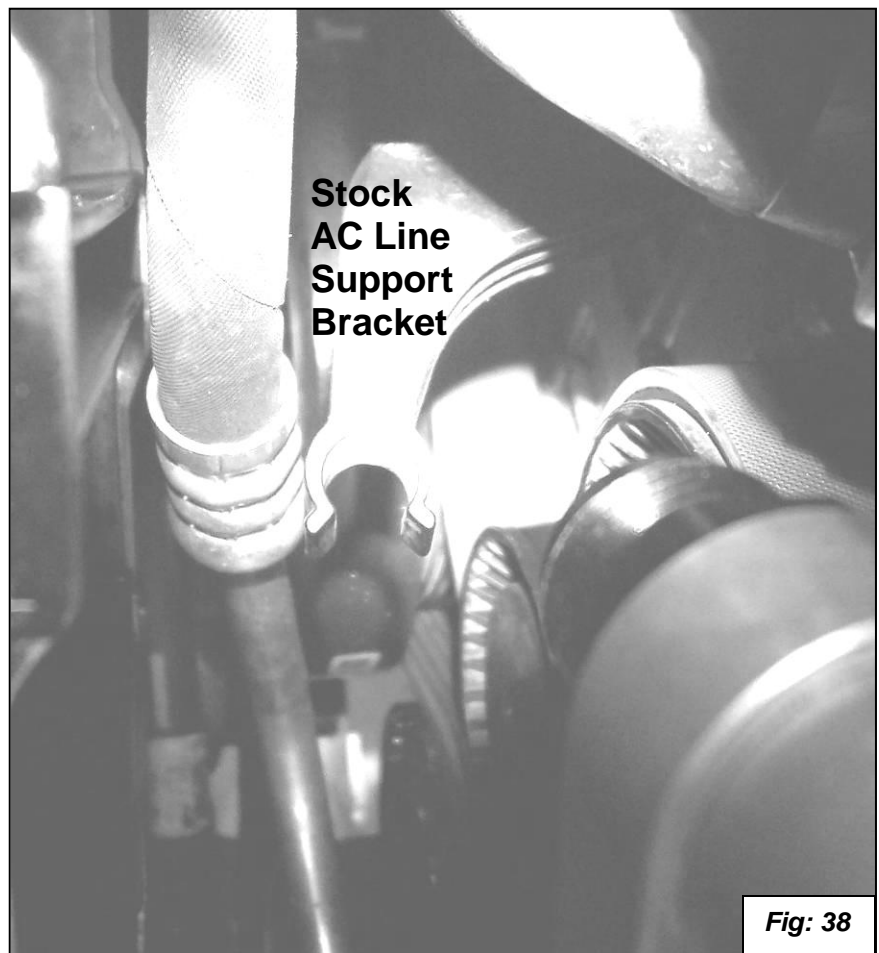

Fig: 38
27. Replace the AC Line Support Bracket. To make room for the new Oil Cooler Hoses you will need to remove the stock plastic AC line support bracket from the front of engine. This bracket will be replaced by a new steel AC Line Support Bracket that relocates the AC line down and slightly forward. Pull the AC line out of the C-shaped tip of the stock support bkt. Remove bracket and save the single mounting bolt for the new support bracket. See figure 38.